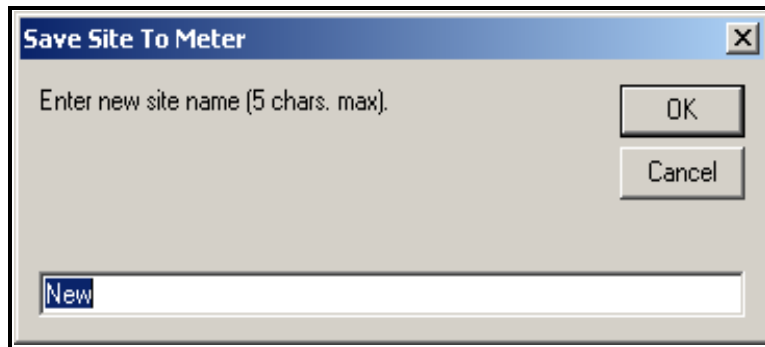

Figure C-16: Site Name Entry Window
2. A window opens similar to Figure C-16 below. Enter the desired name, and click [OK].